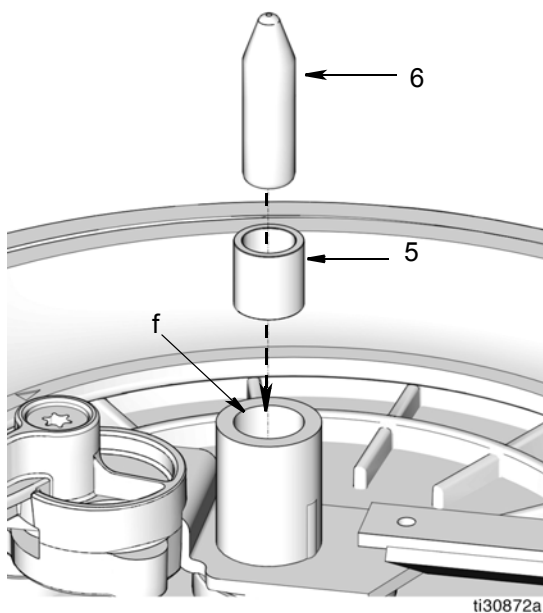

FIG. 5
1. Install large black o-ring (4) around adapter ring (2).
2. Install bearing (5) and then bullet-shaped alignment pin (6) into center opening (f). These parts must be installed in the order shown in FIG. 5.